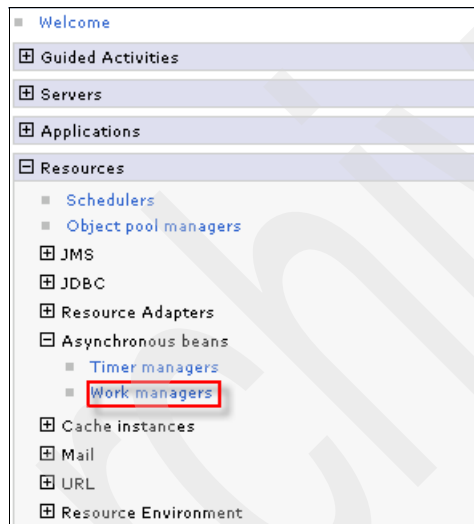

Figure 7-6 Navigating to Work managers
3. In WebSphere Administrative Console (Figure 7-6), expand **Resources** → **Asynchronous Beans** and click **Work managers**.